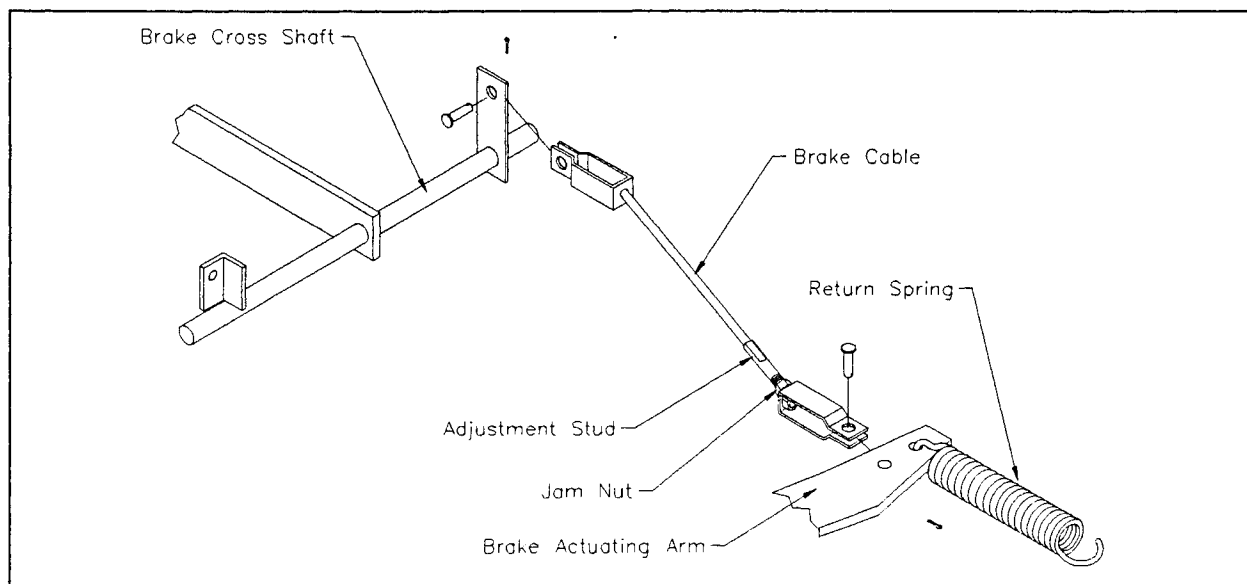

Figure 3-2
- Disconnect the brake cable clevis from the brake actuating arm (see Figure 3-2).
The brake linkage consists of a flexible steel cable with a clevis on either end. This cable connects the brake actuating arm and the brake cross shaft (see Figure 3-2).